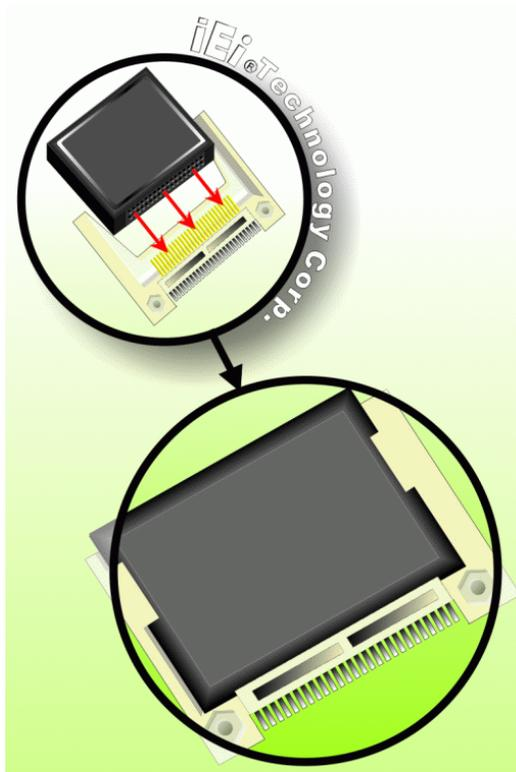

Figure 4-4: CF Card Installation
- Step 4:** **Insert the CF card.** Gently insert the CF card into the socket making sure the socket pins are properly inserted into the socket. See **Figure 4-4**.